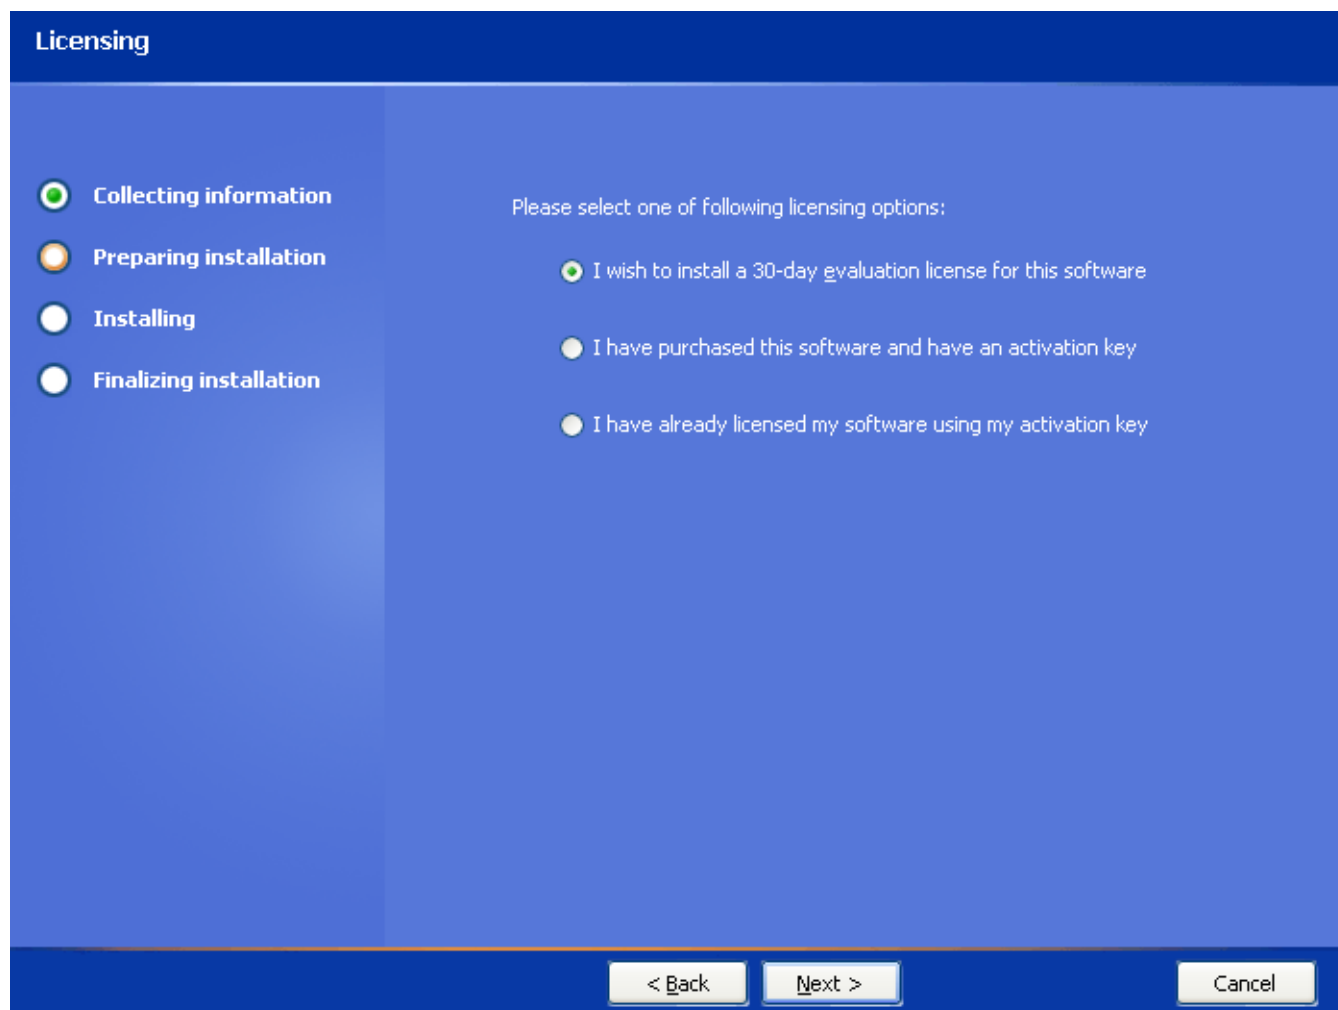

Figure 73 - Licensing Screen
16. Click on the **Next** button to accept the default password. The **Licensing** screen (Figure 73) appears.